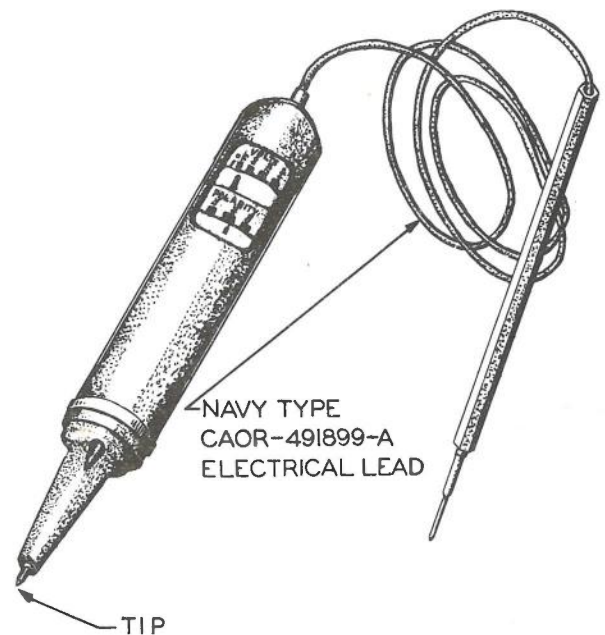

Figure 1-5. Voltage Indicator-Probe ID-265/U and Navy Type CAOR-491899-A Electrical Lead, Identification
e. VOLTAGE INDICATOR-PROBE ID-265/U. (See figure 1-5.) - This unit is shown with its lead attached for a complete circuit. It consists of two meter elements so arranged electrically that one (M-401) indicates whether the line is AC or DC. If the line is DC, the polarity of the probe tip is indicated. The second meter movement (M-402) indicates the magnitude of the voltage. The scale is marked 0, 55, 110, 220 and 440 volts. The AC voltage measured can be in the frequency range of 10 to 10,000 cycles. The lead used with this probe is Navy Type CAOR-491899-A, which is located on the Cord and Test Lead Holder (H-918) behind the Accessory Case.